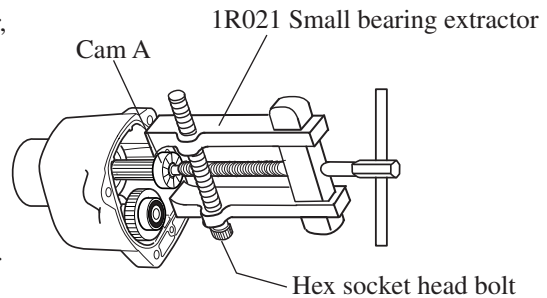

Fig.3
- (1) Grip cam A with 1R020 small bearing extractor, and fix the crow of bearing extractor with hex socket head bolt.
- (2) Remove cam A by turning the handle of bearing extractor as illustrated in Fig3.